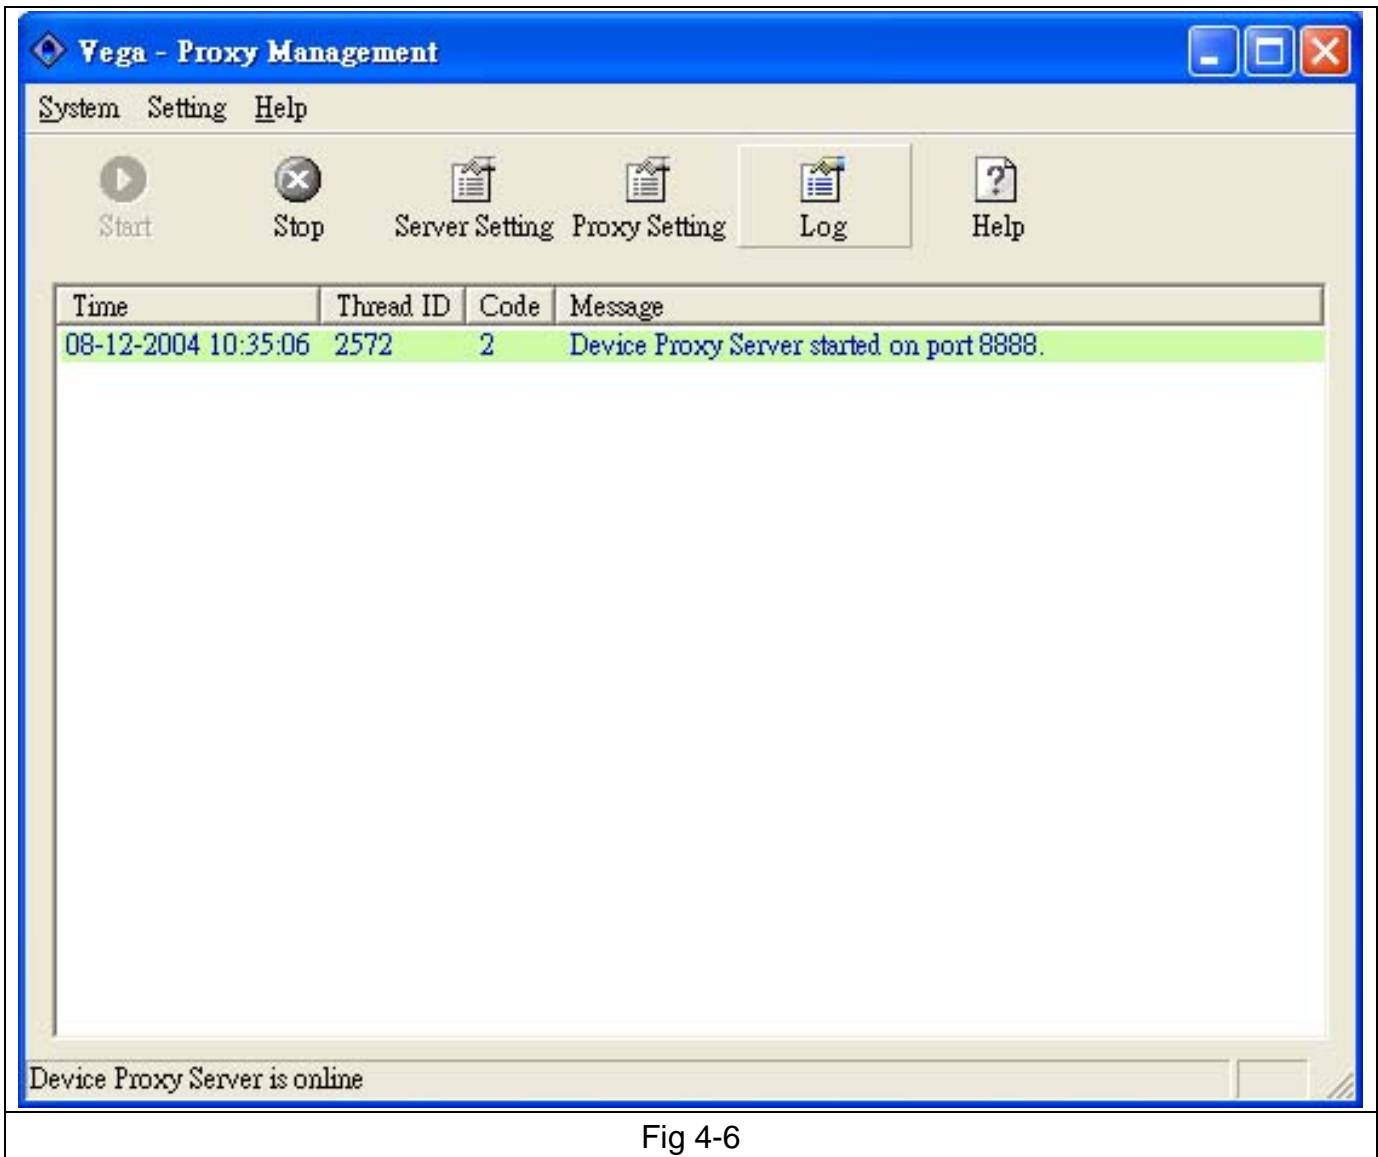

Fig 4-6
E. Please change the **Server Port** from “80” to “8888”, and press **OK** for it to take effect. The next window shows that it runs using port 8888.(Fig 4-6)